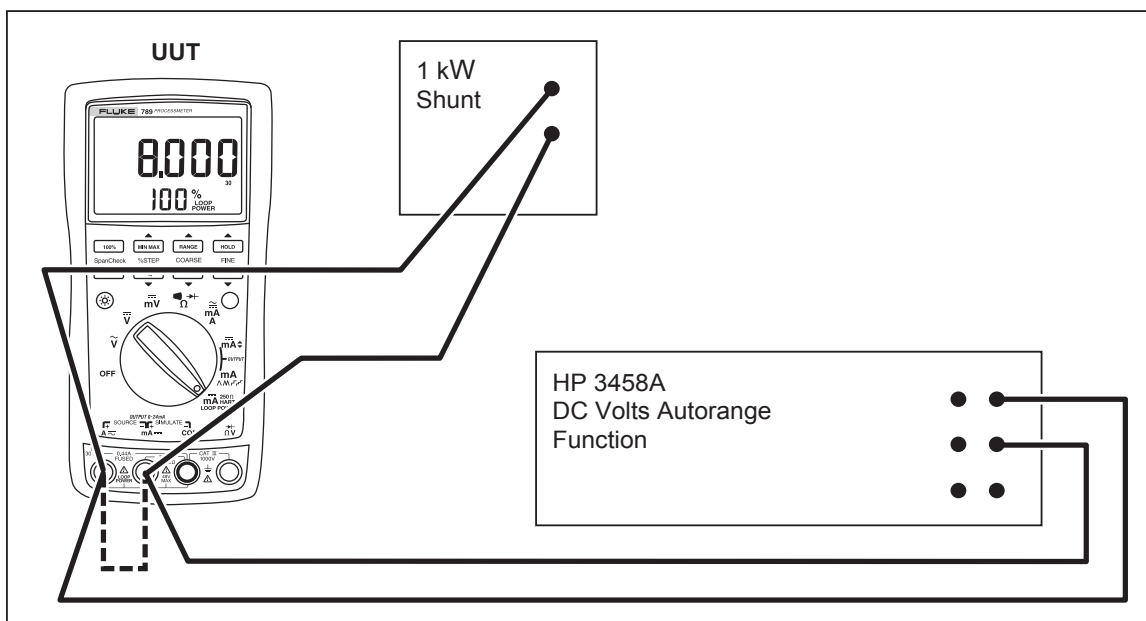

Figure 2. Verifying Loop Power
8. Measure the loaded down voltage and verify it is $>23.8\text{ V}$ and $<32\text{ V}$, see Figure 2.